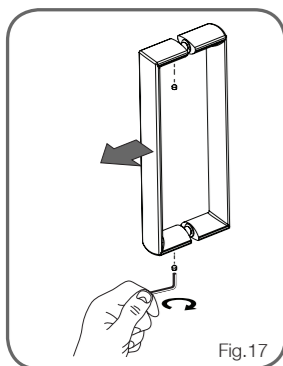

Fig.17
1. Using the allen key supplied loosen the grub screws in the handles and separate the two. (See Fig.17)